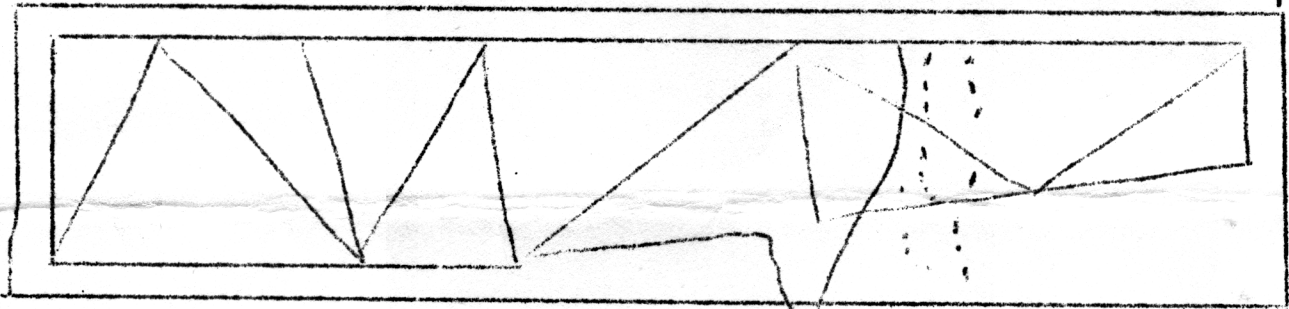

Figure 2 USE TAUT STRING TO LAY OUT LONGERONS
3. The jig is constructed as follows. Obtain a sheet of 4'x8' rough plywood three-quarters inch thick. This is cut and added to as necessary to give the depth and length necessary to be slightly larger than the fuselage sides. The pieces can be joined or held together with 2x4 underneath running the length of the jig or by butt joints using plywood for a doubler. Add pieces the same thickness as the doubler where necessary to make the jig level (see fig 1). Next layout the centre lines of the top and bottom longerons on the plywood using a soft pencil. If the longerons are straight, or with one or two bends, a taut string will assist to layout the straight lines. Now draw in the centre lines of the truss members as per plans, making sure that the center lines intersect at the clusters (see fig 2). Now cut about 50-100 small blocks approximately 1" x 2" x 3/4". These are nailed to the jig to hold the tubing in place (see fig 3). Lay the tubing for the top and bottom longerons directly over the lines drawn on the jig and nail some of the small blocks in appropriate locations to hold the longerons in place. Now nail in four small blocks to hold each truss member in location. Again, make sure that the centre lines of the tubing intersect at clusters. The jig is now built and the two sides can be constructed, one after another, in this jig.